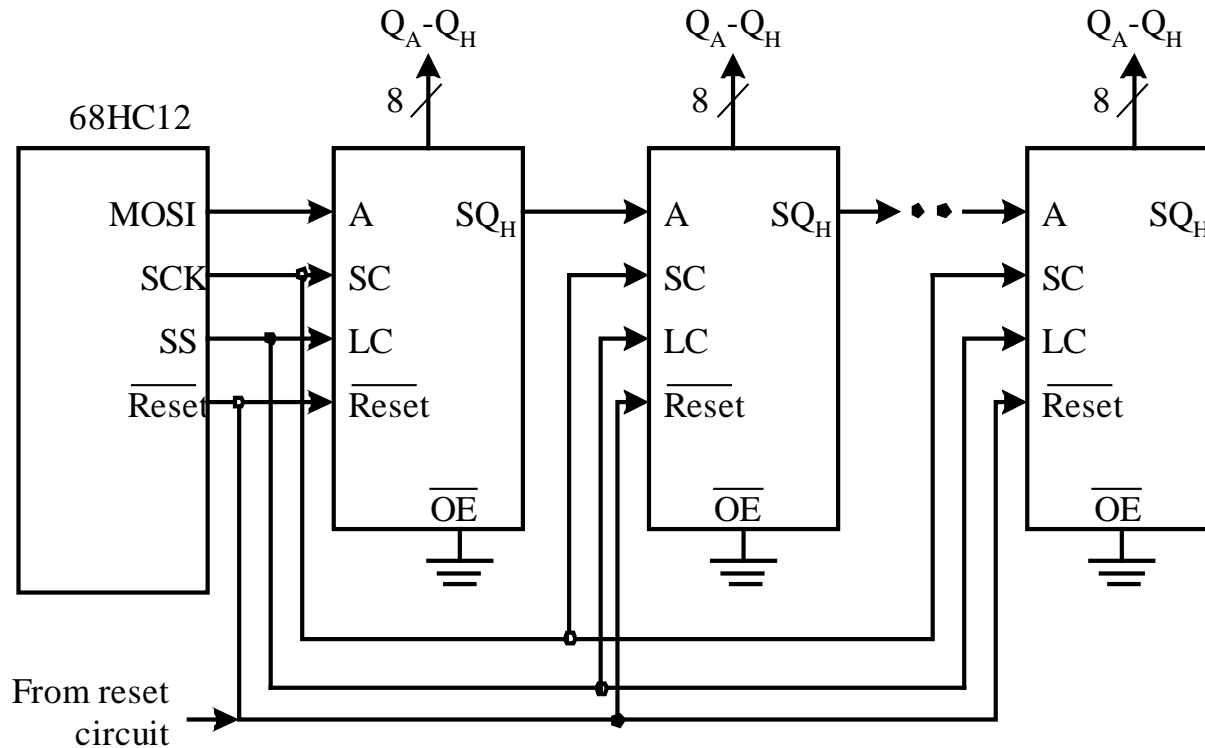

Figure 9.31 Serial connection of multiple HC595s to the SPI
- One possible connection is shown in Figure 9.31.
Procedure for Outputting Multiple Bytes in Figure 9.31
Example 9.10 Write a program to output the contents of 8 bytes that are stored from \$800 to the HC595s in Figure 9.31.